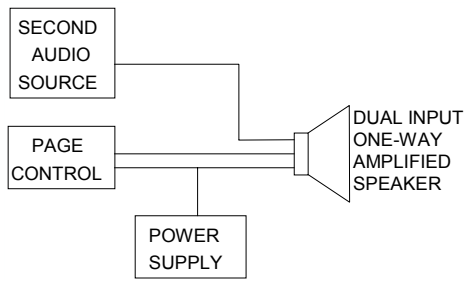

FIGURE 1 - PAGE SYSTEM BLOCK DIAGRAM
- Power Supply sized to provide power to operate the amplified speaker assemblies and page control. (See Figure 1 for Page System Block Diagram)